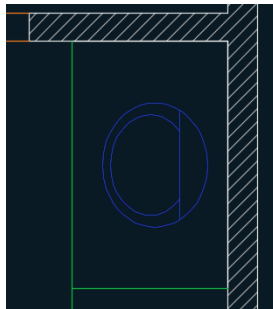

FIGURE 2.5 Directing navigation by positioning the cursor over the bathroom sink while zooming
- To see everything that has been drawn, you can use the Extents option of the ZOOM command or, better yet, use this special shortcut: double-click the mouse wheel. Position the cursor over the bathroom sink, and roll the mouse wheel forward to zoom in. Notice that the view stays centered on the sink without your having to pan (see Figure 2.5). Drag the mouse wheel to make slight panning adjustments if necessary to center the target object on the screen.